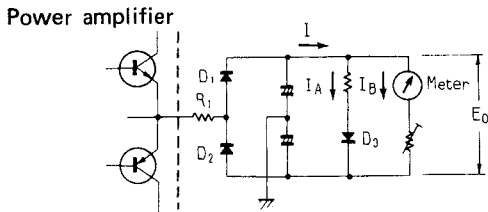

Fig. 3 Meter drive circuit
The output signal of the power amplifier is passed through R1 and full-wave rectified by D1 and D2 to a DC voltage (Eo) corresponding to the signal level (Fig. 3). When the output signal of the power amplifier is small, and Eo ≤ VF, (D3 forward voltage ≐ 0.6V), the forward resistance of D3 becomes high and current (I) becomes I ≐ IB. When the output signal of the power amplifier is large, and Eo > VF, the forward resistance of D3 becomes low, and current (I) becomes I = IA + IB.